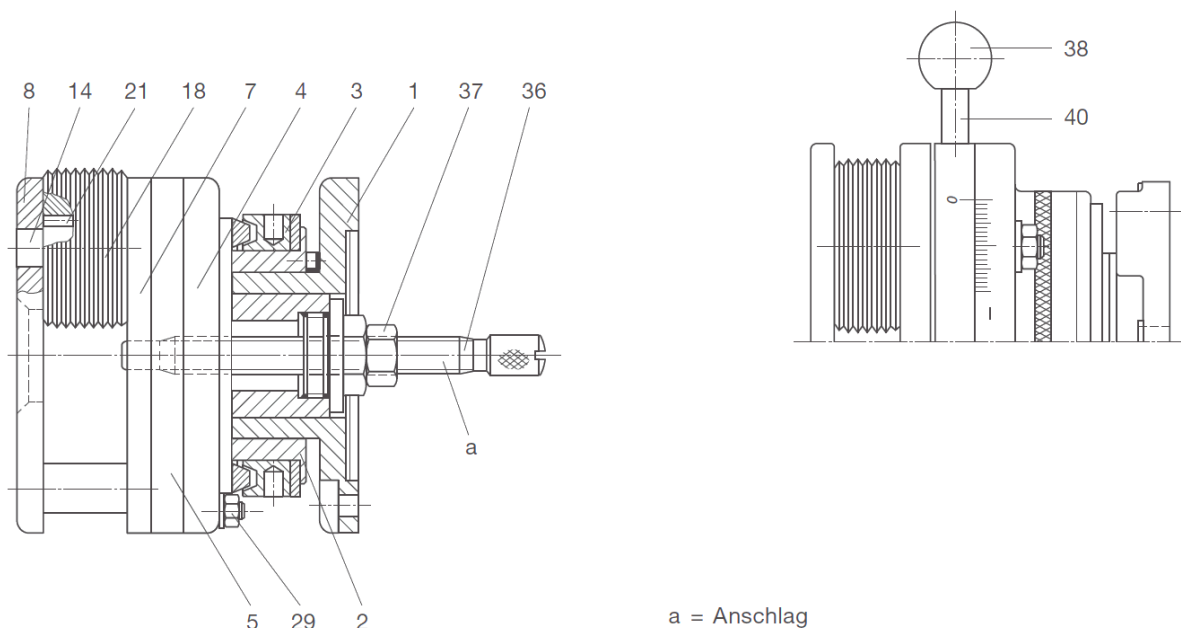

Figure 12: labeled scale on the *rolling system* RN
2. Loosen the hex nuts (29)
3. Turn the gear ring (5) within the slotted holes(4) by means of the handle (38) until the outside diameter of the rolls reach the required position or touch a setting sample.
4. Tighten the hex nuts (29)
5. If the produced pitch diameter is too small or to large, fine adjustment is needed. In order to fine adjust the rolling head use the labeled scale (see figure 12).
See in Figure 12 the labeled scale on the rolling head.